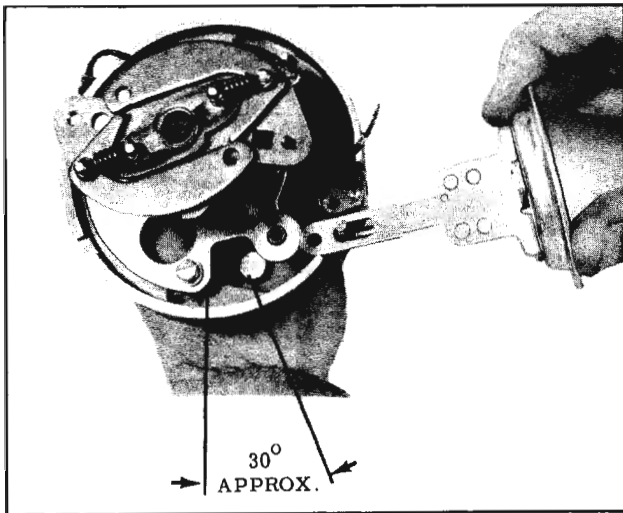

Fig. 14-124 Vacuum Advance Removal
5. Pull the vacuum advance unit out from the distributor so that the breaker plate is rotated approximately 30° counterclockwise. Holding the breaker plate in this position, disengage the vacuum advance unit rod from the breaker plate and remove vacuum advance unit. (Fig. 14-124)